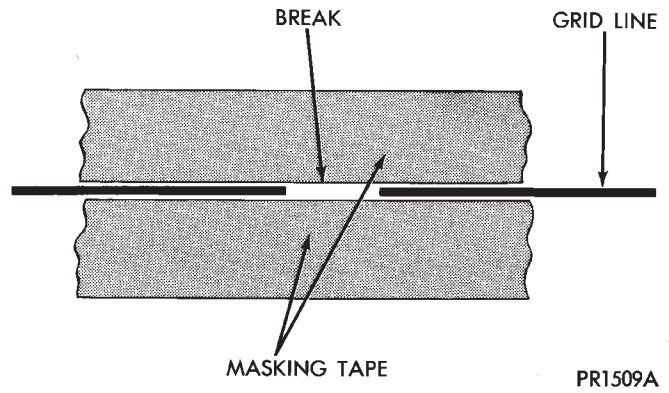

Fig. 5 Grid Line Repair—Typical
- (1) Clean area surrounding grid line or terminal by gently rubbing area with steel wool.
- (2) Wipe area with clean cloth soaked in alcohol or similar solvent. It is necessary that all contaminants be removed from repair area.
- (3) Remove package separator clamp and mix plastic conductive epoxy thoroughly.
- (4) For grid line, mark off area to be repaired with masking tape (Fig.5).